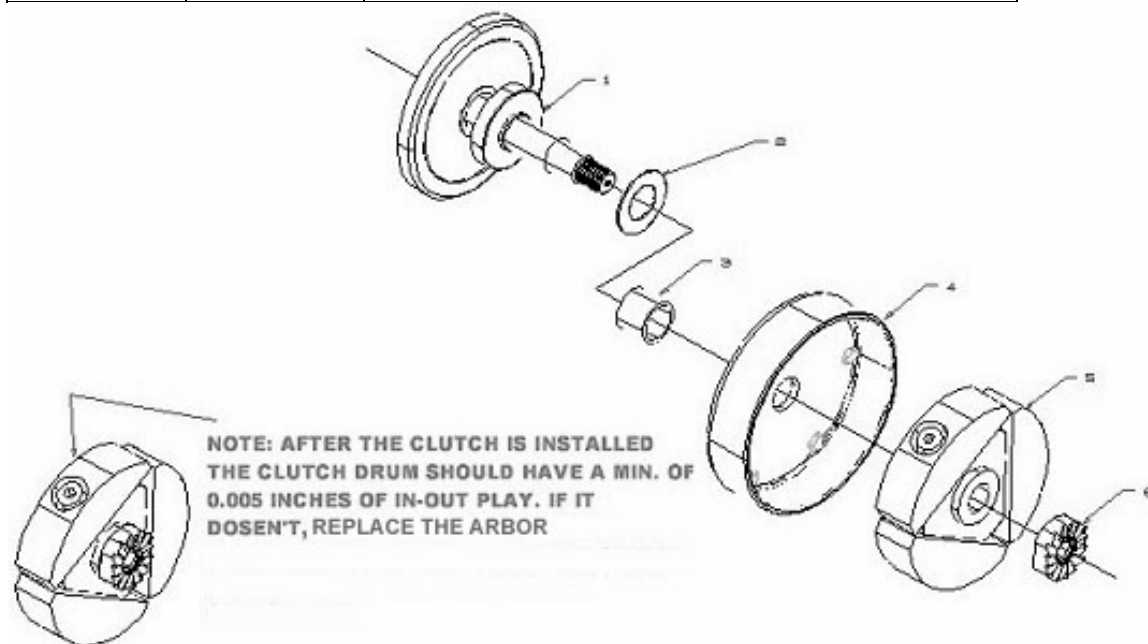

Figure 33, Clutch Assembly Drawing
7. Apply high strength thread locking agent to the threads and install the nut and torque to 40 ft-lb (54Nm) with the special socket (see figure 33).